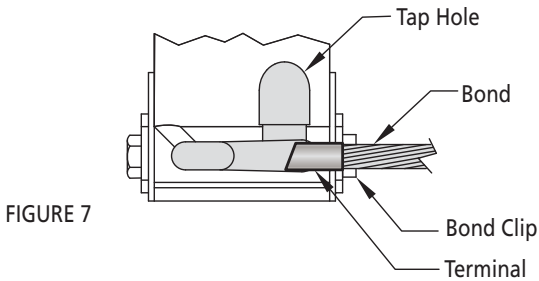

FIGURE 7
1. Place bond in welder with flat surface against rail head and end of terminal against bond clip. This correctly positions bond in the weld cavity. Be sure the bond clip is in good condition and properly positions terminal under the center of the tap hole as shown. **See Figure 7.**